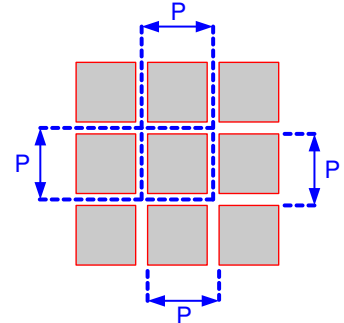

Figure 5-8. Micromirror Array Physical Characteristics
(1) See Figure 5-8.
(2) The structure and qualities of the border around the active array includes a band of partially functional micromirrors referred to as the pond of micromirrors (POM). These micromirrors are prevented from tilting toward the bright or “on” state but still require an electrical bias to tilt toward “off.”